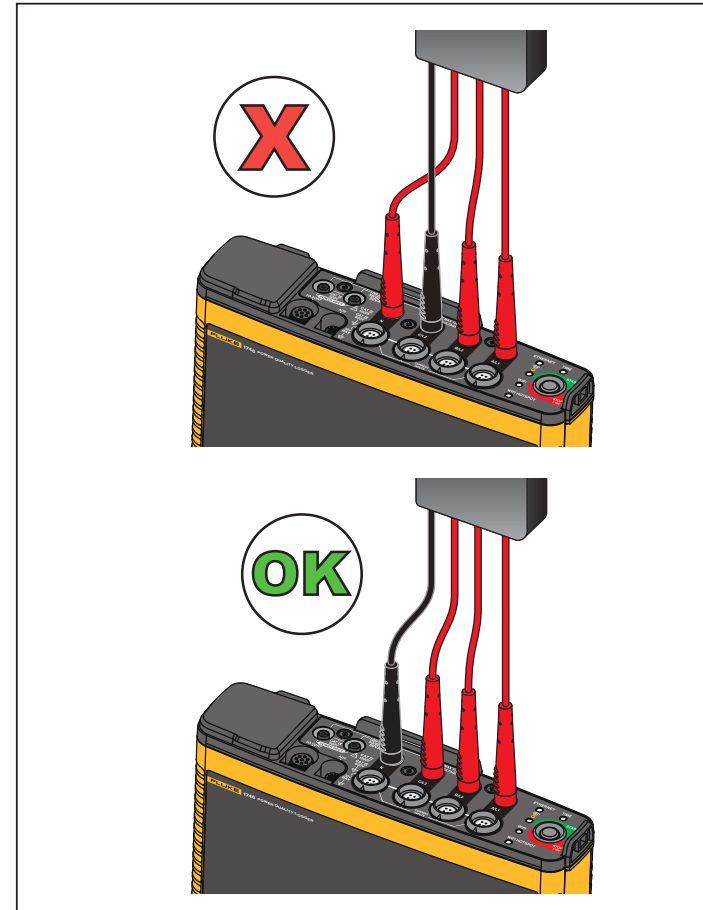

Figure 6. Measurement Connection to the Logger
3. Connect the short test leads (see Figure 6) with the power supply inputs. Make sure to use the non-stackable plugs. The test leads are rated for measurement/overvoltage CAT III 1000 V and CAT IV 600 V.